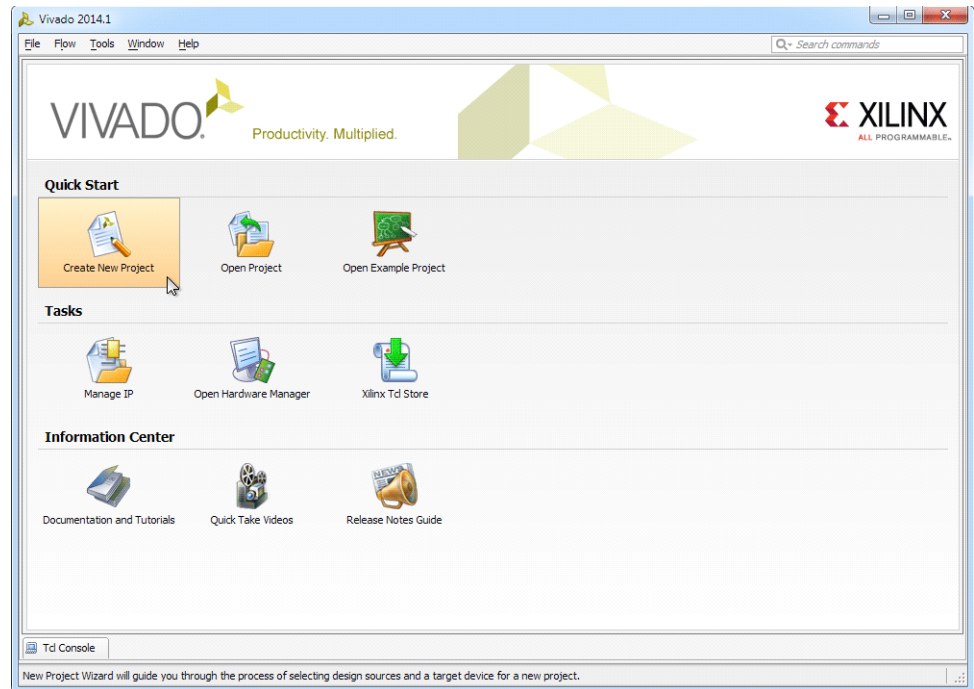

Figure 2: Create New Vivado Project
2. Select **Create New Project** and click **Next** (Figure 2).